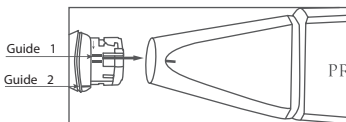
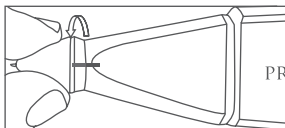

Fig. 1.08
Fig. 1.09
2. To insert a new probe tip, position Guide 1 as shown in **Fig. 1.08**, slide it in and turn clockwise to align Guide 2 with the guide marked on the main body to secure it as shown in **Fig. 1.09**.